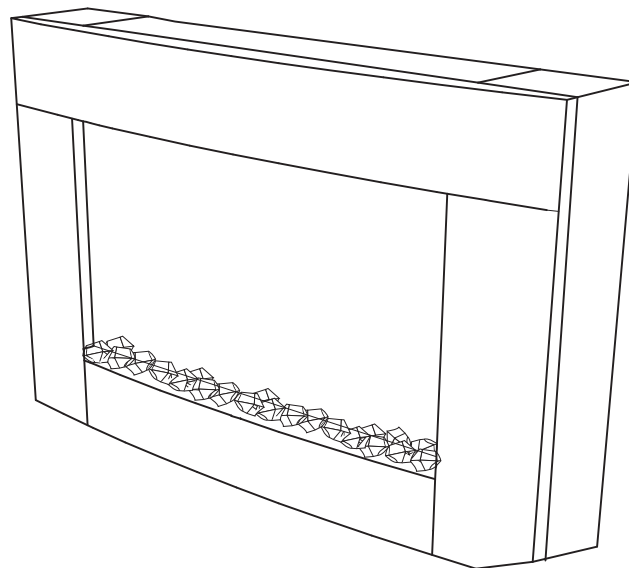

Figure 1
WARNING: Heater vents (See Figure 1, Page 6) on this electric fireplace cannot, in any way, be covered as it may create a fire hazard.
- 3 Pour the clear crystal on the ember bed against the mirrored glass. See Figure 1